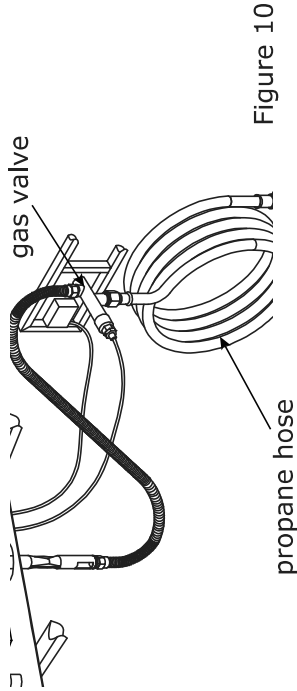

Figure 10
1. Disconnect the propane hose from the gas valve (see Figure 10).